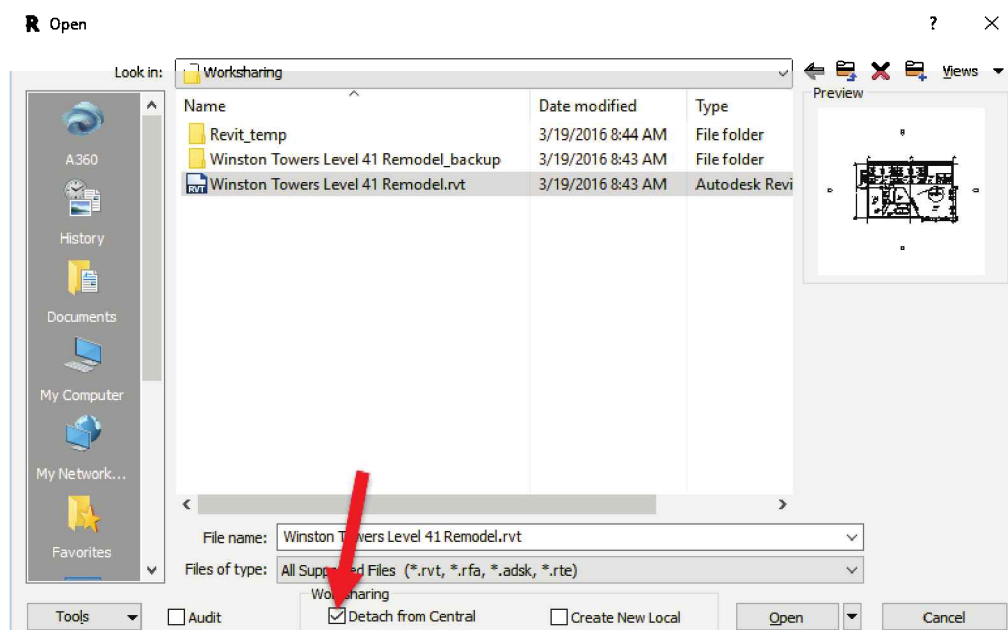

FIGURE 17-2.11 Detach from Central checked; open dialog
- Check the **Detach from Central** option (Figure 17-2.11)